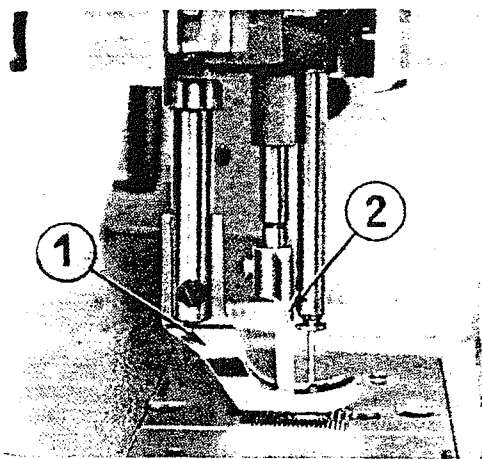

Fig. 13
The vertical stroke of the presser foot (Fig. 13 ①) and the walking foot (Fig. 13 ②) moving alternately is equal, normally, and the range of this stroke is adjusted by the thickness of the sewing cloth.